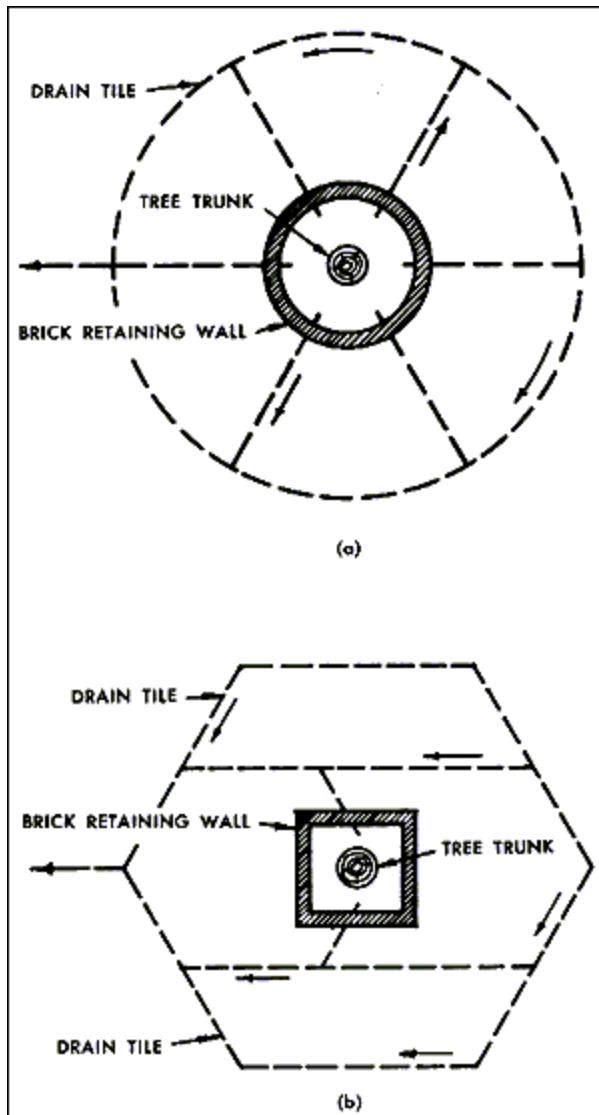
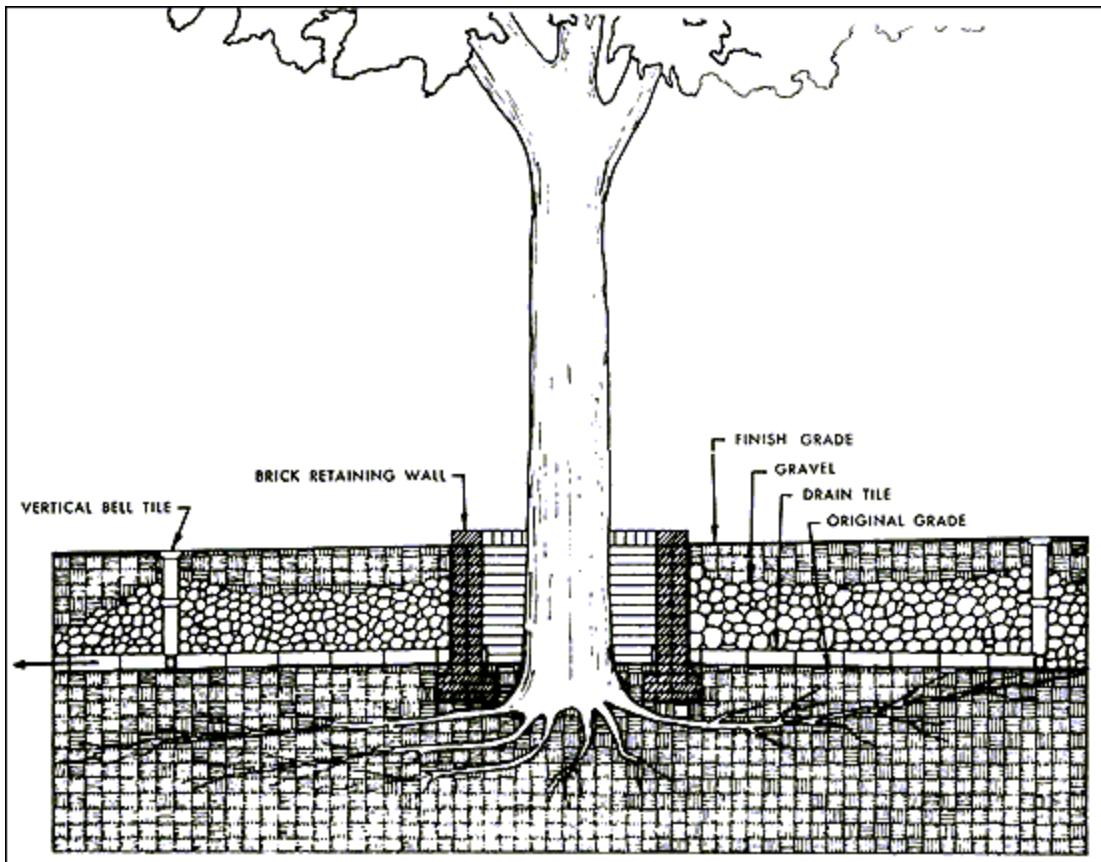

FIG. 11
FIG. 12
*Raising the Grade.* Minor fills, 6 in. or less in depth, will not harm most species of trees, if the fill is good top soil that is high in organic matter and loamy in texture. For major grade changes, air and adequate water must be supplied to the roots of the tree. This may be accomplished by constructing a brick retaining wall around the trunk of the tree and placing a layer of gravel and a system of drain tile on original grade over the roots of the tree. Figure 11 indicates two plans for placing the drain tile. The tile should slope in the direction indicated. It is important that the tile extend through the brick retaining wall so that water will not collect around the trunk of the tree. In addition to the tile placed on original grade, it may be necessary to place a series of bell tile vertically over the roots, and connected to the tile system for additional air and water circulation. This detail is shown in Fig. 12. The system must be designed to fit the contour of the land so that water drains away from the tree trunk.